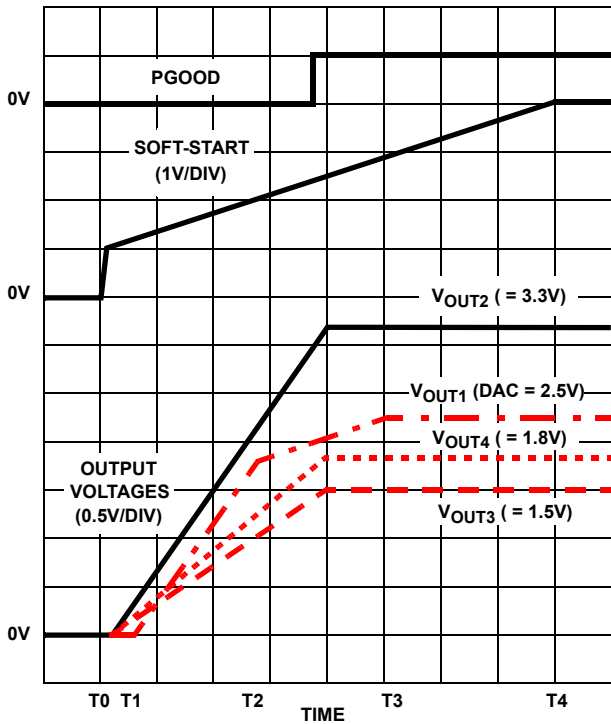
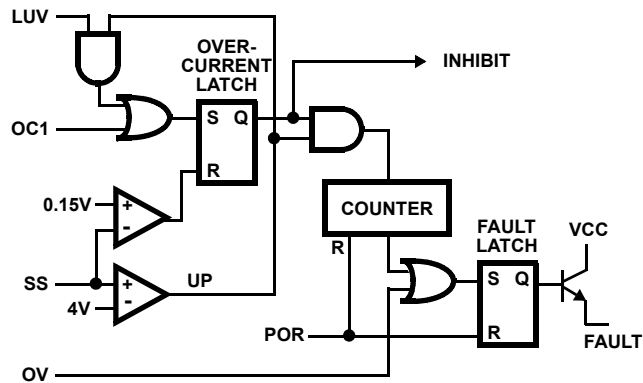

FIGURE 3. SOFT-START INTERVAL
FIGURE 4. FAULT LOGIC - SIMPLIFIED SCHEMATIC
Figure 3 shows the soft-start sequence for the typical application. At T0 the SS voltage rapidly increases to approximately 1V. At T1, the SS pin and error amplifier output voltage reach the valley of the oscillator's triangle wave. The oscillator's triangular wave form is compared to the clamped error amplifier output voltage. As the SS pin voltage increases, the pulse-width on the PHASE pin increases. The interval of increasing pulse-width continues until each output reaches sufficient voltage to transfer control to the input reference clamp. If we consider the 2.5V core output (V_{OUT1}) in Figure 3, this time occurs at T2. During the interval between T2 and T3, the error amplifier reference ramps to the final value and the converter regulates the output a voltage proportional to the SS pin voltage. At T3 the input clamp voltage exceeds the reference voltage and the output voltage is in regulation.
Figure 4 shows a simplified schematic of the fault logic. An over-voltage detected on V_{SEN1} immediately sets the fault latch. A sequence of three over-current fault signals also sets the fault latch. The over-current latch is set dependent upon the states of the over-current (OC), linear under-voltage (LUV) and the soft-start signals. A window comparator monitors the SS pin and indicates when C_{SS} is fully charged to 4V (UP signal). An under-voltage on either linear output (V_{SEN2} , V_{SEN3} , or V_{SEN4}) is ignored until after the soft-start interval (T4 in Figure 3). This allows V_{OUT2} , V_{OUT3} , and V_{OUT4} to
Initially, the soft-start function clamps the error amplifier's output of the PWM converter. This generates PHASE pulses of increasing width that charge the output capacitor(s). After the output voltage increases to approximately 70% of the set value, the reference input of the error amplifier is clamped to a voltage proportional to the SS pin voltage. The resulting output voltages start-up as shown in Figure 3.